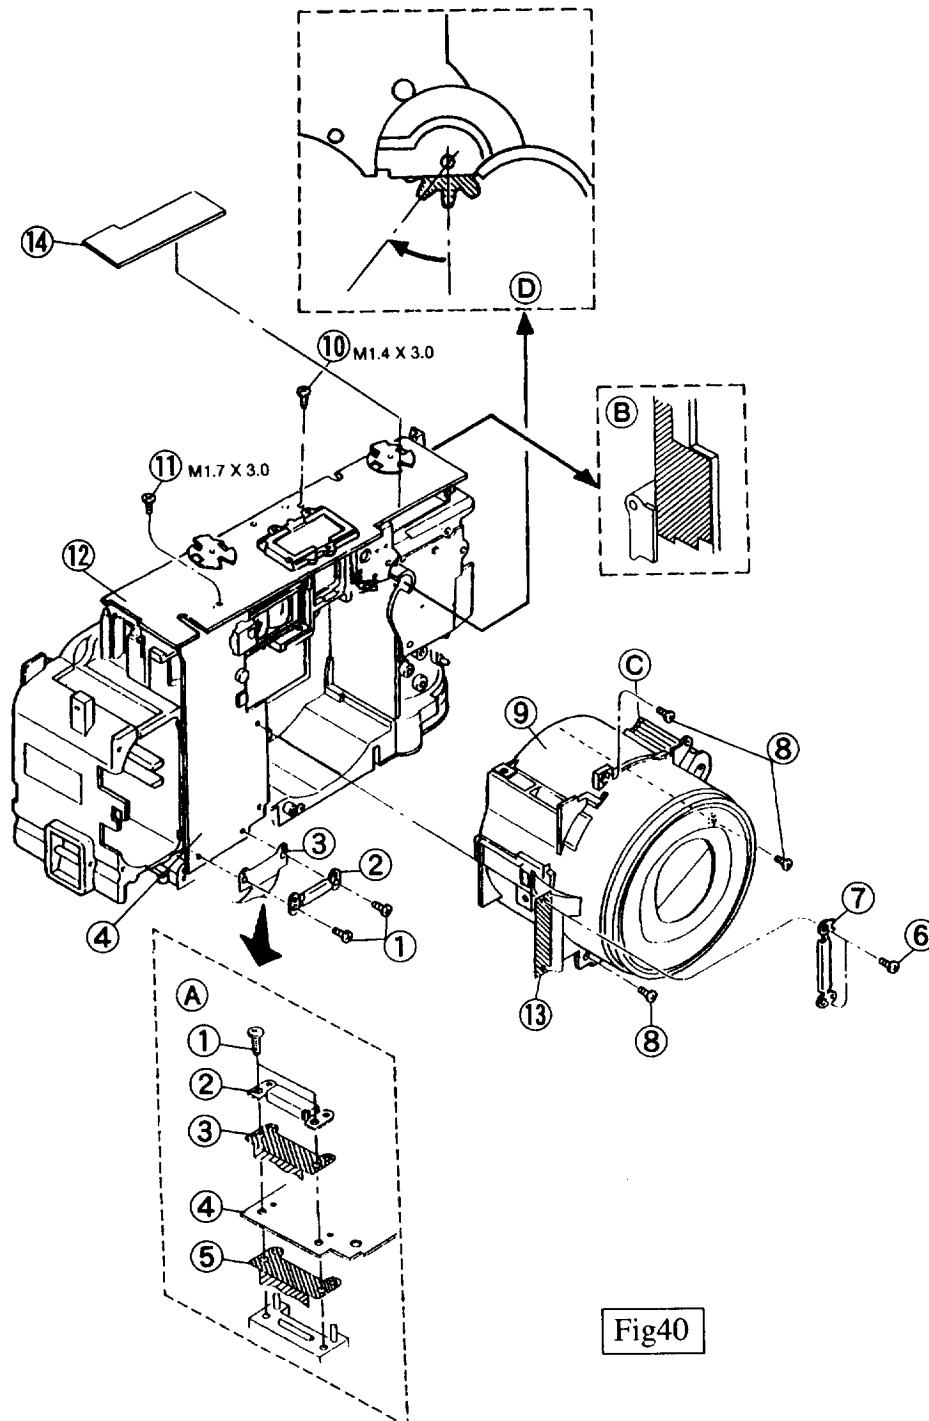

Fig40
(Fig. 40)
- (3) Tighten the SCREW (⑩) and the SCREW (⑪). (Fig. 40)
- (4) Set the part of IF FPC (③) on the FRONT PCB (④) then set the FPC HOLDER A (②) and tighten two SCREWS (①). (Fig.40- (A))
- (5) Fix the BACK COVER SW part of MOTOR FPC to the BODY. (Fig. 40, (B))
- (19) Set the SHIELD (Fig 40, ⑭).
- (1) Turn the LENS BARREL GEAR (C) to set the LENS BARREL at TELE END position.
- (2) Return the ZOOM 5 GEAR to WIDE direction from TELE END position by 1 tooth. (Fig. 40, (D))
- (3) Keep above position of (1) and (2), then set the LENS BARREL UNIT (9) to the BODY and tighten three SCREWS (8).
- (4) Set the SHUTTER FPC (13) on the FRONT PCB (4) then set FPC HOLDER B (7) and tighten two SCREWS (6).